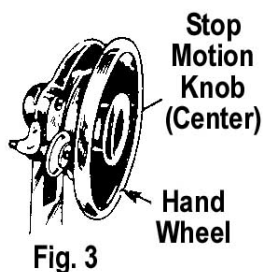

Fig. 3
To replace the needle, raise the needle bar to its highest point by turning the hand wheel (Fig. 3) TOWARD YOU by hand. Loosen the needle clamp screw (A) on the right hand side, and the needle clamp will open, allowing the old needle to slip out.